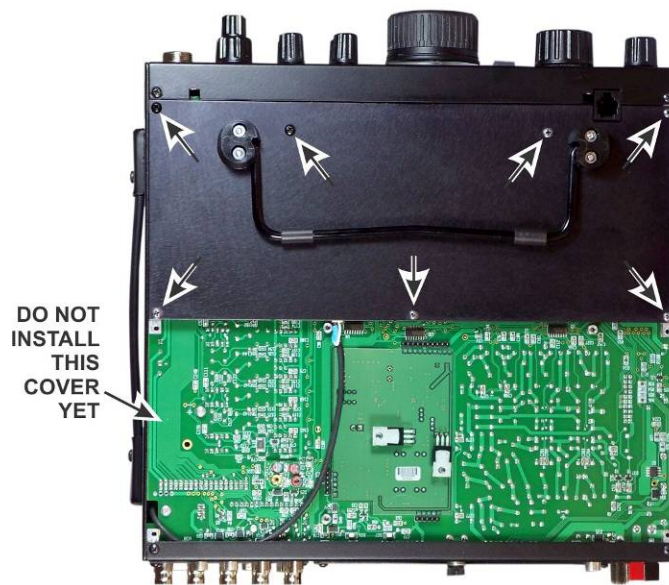

Figure 99. Installing Bottom Cover Forward Section.
Turn the K3S over so the bottom is exposed. Position the forward section of the bottom cover with the feet and bail toward the front as shown in Figure 99. Attach the cover with seven 3/16" (4.8 mm) black pan head screws (SS) at the positions shown. Do not use washers.